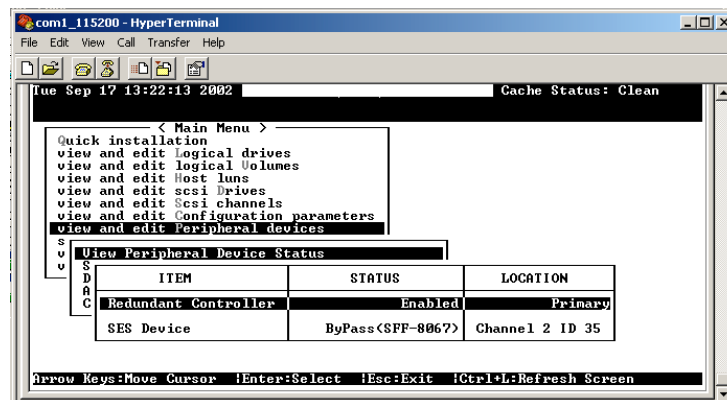

Figure 3-5: View Peripheral Status
**Step 1.** Open the PC Terminal Emulation screen. Enter the Main Menu and, using the arrow keys, scroll down the menu and select the “**View and Edit Peripheral Devices**” option. Once this has been selected a second menu will appear. From this menu select “**View Peripheral Status**”. The menu shown in *Figure 3-5* should appear: